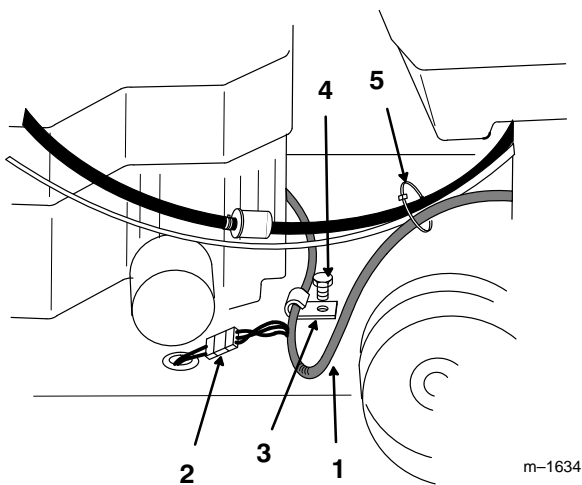

Figure 7
1. Secure wire harness and throttle to upper handle with cable tie (Fig. 7).
2. Route wire harness down inside left handle, under fuel tank bracket and behind engine. (Fig. 7).
3. Plug clutch connector, coming up through frame at side of engine, into wire harness (Fig. 7).
4. Secure wire harness to frame behind engine with cable clamp, just past clutch connector lead (Fig. 7).